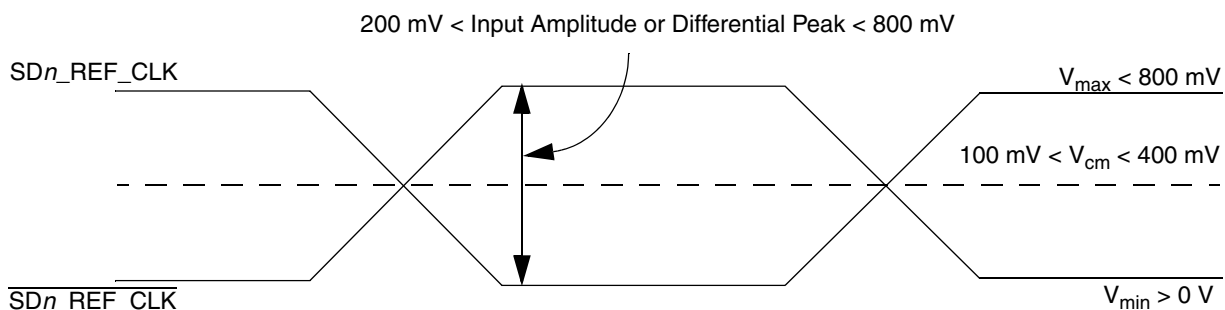

Figure 50. Differential Reference Clock Input DC Requirements (External DC-Coupled)
- For **external DC-coupled** connection, as described in Section 20.2.1, “SerDes Reference Clock Receiver Characteristics,” the maximum average current requirements sets the requirement for average voltage (common mode voltage) to be between 100 mV and 400 mV. Figure 50 shows the SerDes reference clock input requirement for DC-coupled connection scheme.